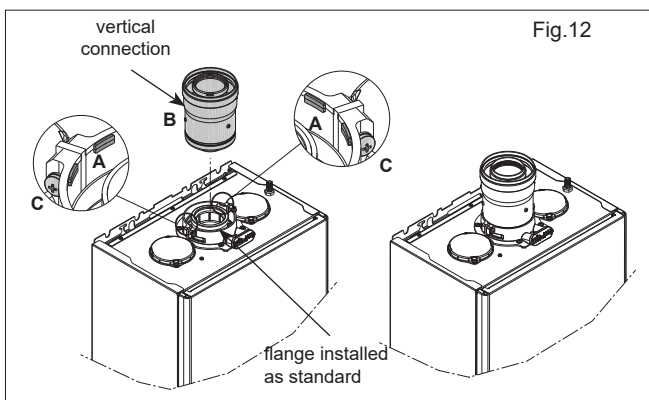

Fig. 12
**NOTE (Fig. 12):** The appliance incorporates a 'click-fit' flue connection. Ensure that both screws 'C' on the 'click-fit' have been slackened off. Ensure that the connector is correctly aligned with the 'click-fit' and insert it into the 'click-fit' until it clicks into position (this is when the tabs at points 'A' are located in the groove of the vertical flue connector). Both screws (C) should now be tightened.